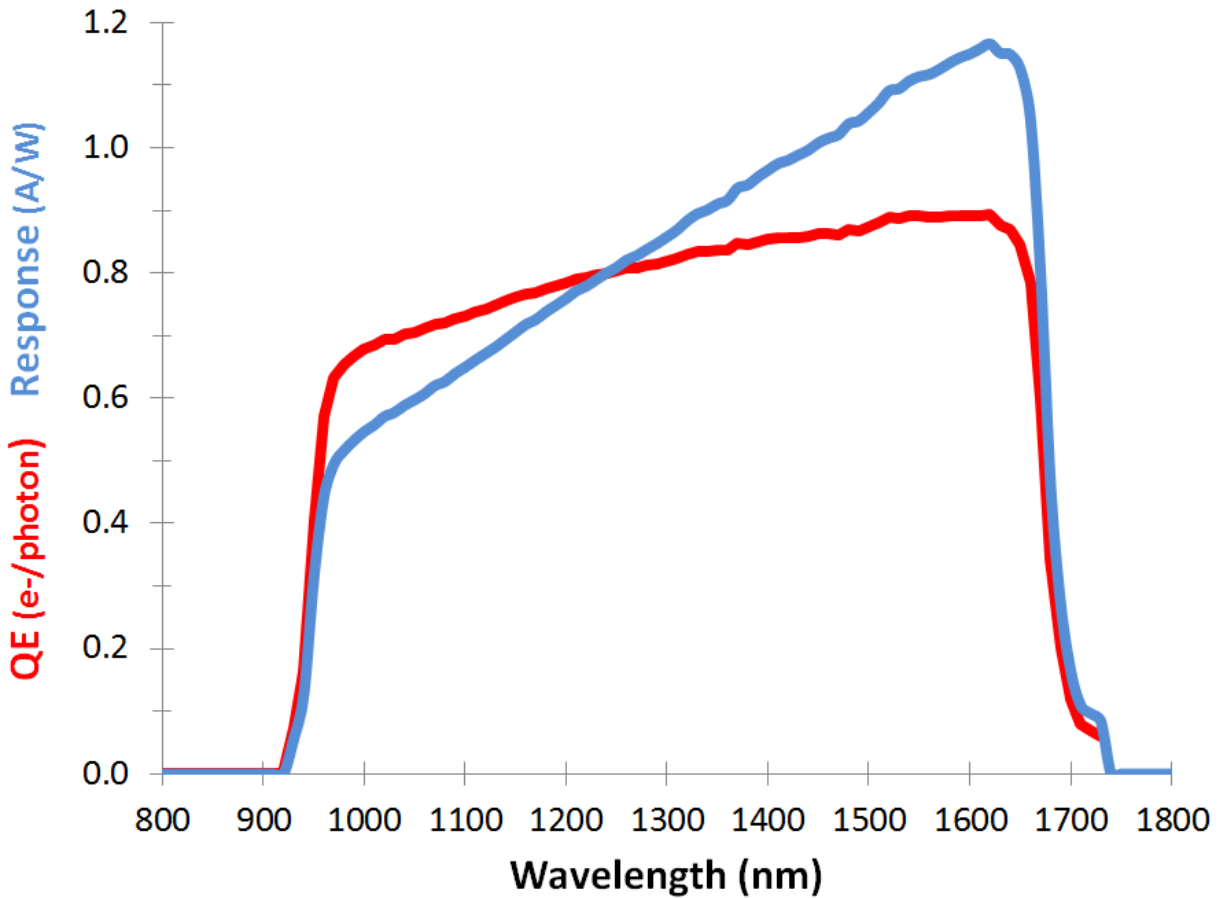

Figure 8 Typical QE for front-side illuminated Sensors Unlimited linear PDAs.
The Sensors Unlimited GL2048L/R cameras include a Sensors Unlimited LC1 series indium gallium arsenide (InGaAs) linear focal plane array. This device is a hybrid combination of a single InGaAs back-illuminated photodiode array with a silicon CMOS readout integrated circuit (ROIC). Typical quantum efficiency (QE) and wavelength responsivity for Sensors Unlimited’s standard SWIR wavelength range back-illuminated 1.7 μm cutoff linear arrays is shown in Figure 8. (The GL2048 arrays are only available with these cut-on and cut-off wavelengths.) Note that the back-illumination approach limits the FPA response below 980 nm compared to the front illumination of previous front-illuminated SUI line scan cameras.